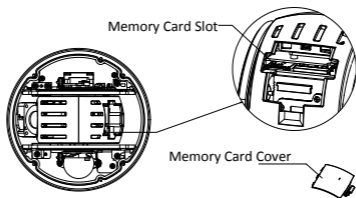
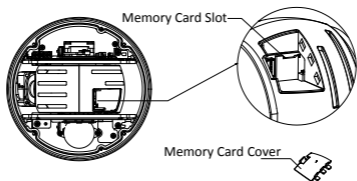

Figure 2-13 For 20x Camera Module
Figure 2-14 For 4x Camera Module
3. Open the memory card cover and insert the memory card into the card slot as shown in Figure 2-13 and Figure 2-14.